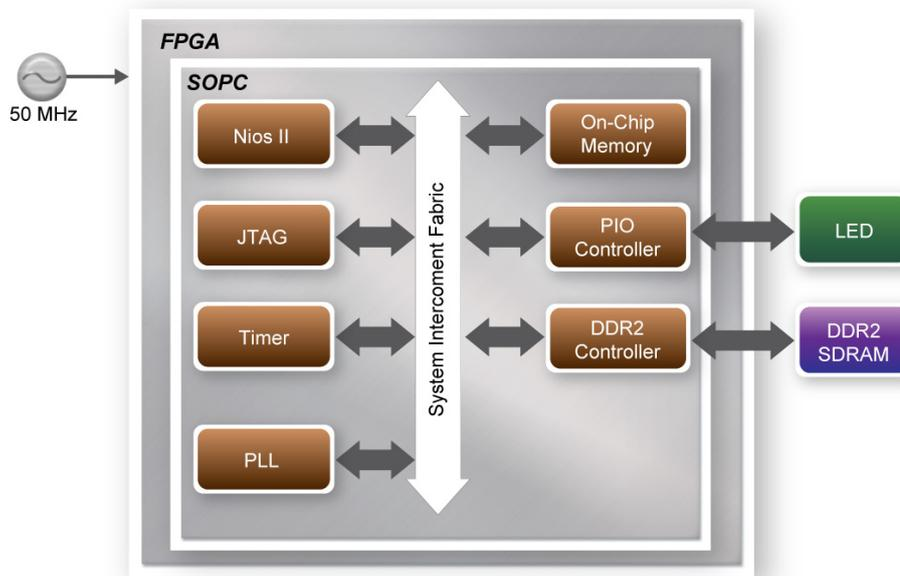

Figure 5–22 Block diagram of the DDR2 demonstration
- The program will display SD Card information, as shown in **Figure 5–21**.
Figure 5–22 shows the system block diagram of this demonstration. The system requires a 50 MHz clock provided from the board. The DDR2 controller is configured as a 1Gbytes DDR2-800 controller. The DDR2 IP generates one 400 MHz clock as SDRAM's data clock and one half-rate system clock 200 MHz for those controllers, e.g. NIOS processor, accessing the SDRAM. In the SOPC, NIOS and On-Chip Memory are designed running with the 200 MHz clock, and the other controllers are designed running with 10 MHz clock which is generated by the PLL. The NIOS program is running in the on-chip memory.